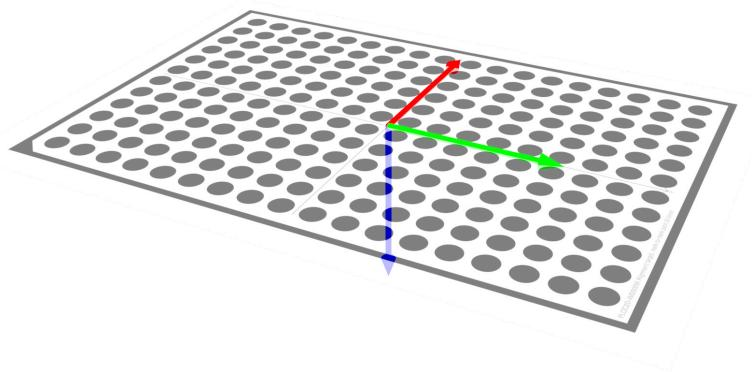

Figure 17: Work plane alignment base
10. Define the robot work plane by jogging the robot to the alignment target points indicated by the arrows (x-axis in red, y-axis in green, z-axis in blue) in figure 17